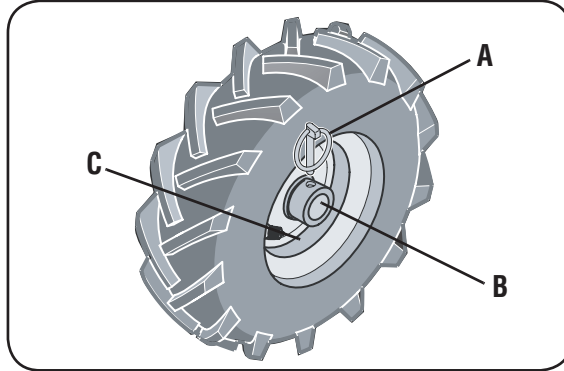

Figure 3-2: WHEEL DRIVE position.
Each wheel is equipped with a wheel drive Klik pin (A, Figures 3-2 and 3-3) that secures the wheel to the wheel shaft (B). The wheels can be positioned in either a WHEEL DRIVE or a FREEWHEEL mode.
3. Remove Klick Pin (A, Figures 3-2 and 3-3) from wheel drive shaft (B).
4. **FOR WHEEL DRIVE MODE** (Figure 3-2): Slide wheel outward and align holes in wheel hub (D, Figure 3-2) and wheel shaft (B). Insert Klick pin (A) through wheel hub (C) and wheel shaft (B). Repeat with the other wheel and then remove the support from beneath the transmission.